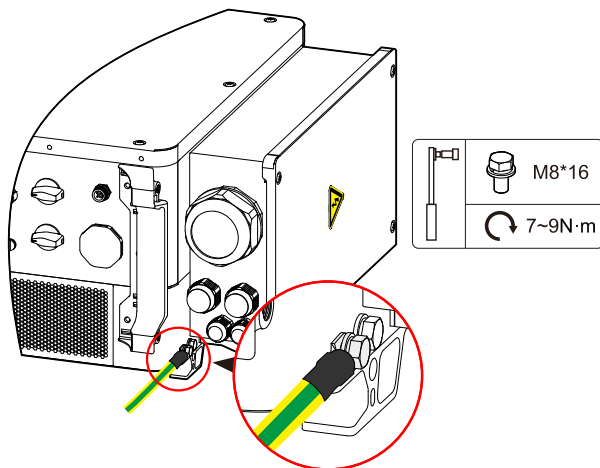

Figure3-27 External grounding connection
Step 2 Connect the crimped grounding wire to the external grounding terminal at the bottom of the inverter, as shown in Figure3-27.